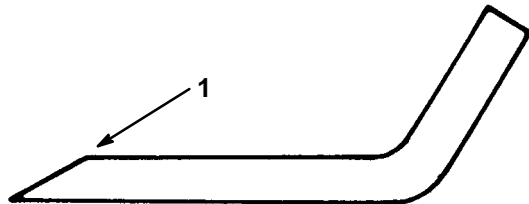

Figure 31
1. Use a file to sharpen the cutting edge at both ends of the blade (Fig. 31). Maintain the original angle. The blade retains its balance if the same amount of material is removed from both cutting edges.